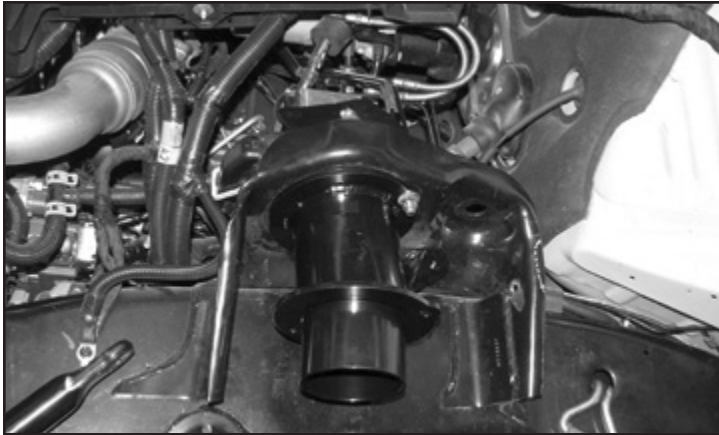

FIGURE 17 - STEP 26
26. Torque the 7/16" bolt to 59 ft-lbs and the 1/2" button head bolt to 90 ft-lbs. **SEE FIGURE 17**